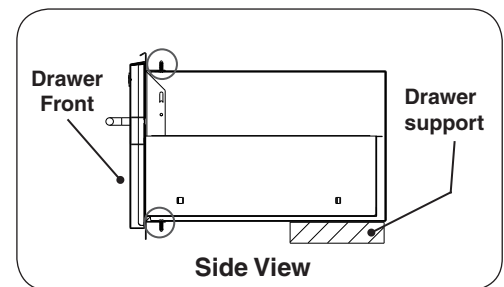

Fig. 2-4 Drawer Installation (Side View)
1. In order to properly support the weight of your drawer, it is necessary to provide a secure, level surface in the rear of the unit (see Fig 2-4). This may be accomplished by using bricks, 2 X 4's, etc. Be sure that the height of this rear support is  $\frac{1}{8}$ " higher than that of the front opening support, so that your drawer sits level.